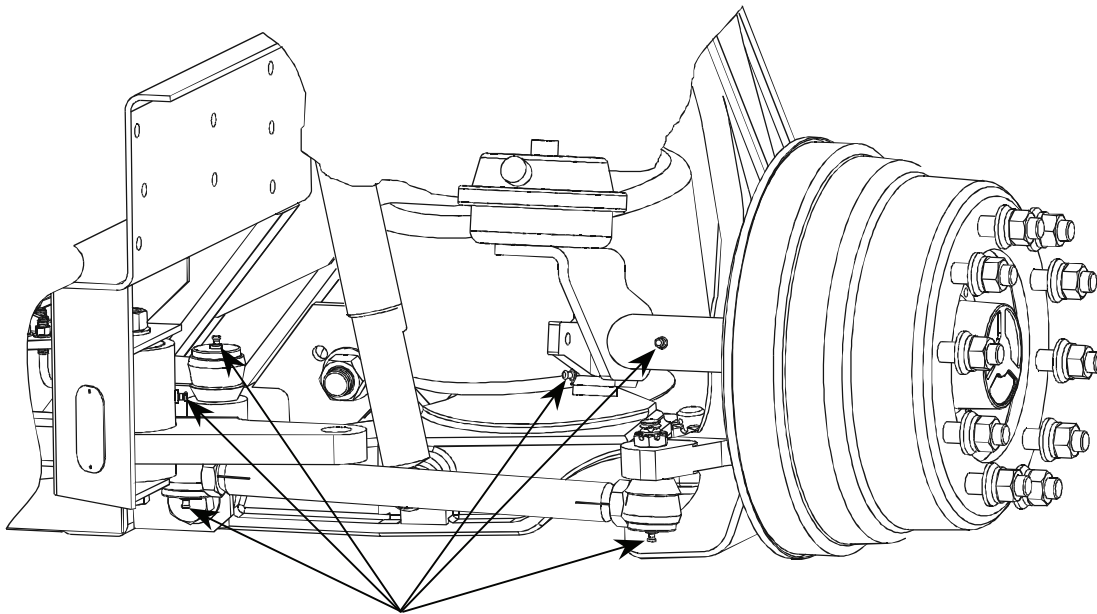

Figure 17 – Location of lubrication fittings. Note: Left side only shown.
2. Apply lubricant to grease fitting until new lubricant discharges from the dust boot (See Figure 17).
2. Apply lubricant to the bell crank and idler steering arms until new lubricant discharges from the bearing seal or from the pressure relief port of the grease fitting. (See Figures 17).
2. Apply lubricant to the S-cam tube until new lubricant discharges from the S-camshaft bushing seal next to the automatic slack adjuster. (See Figure 17).
3. Apply lubricant to the automatic slack adjuster until new lubricant discharges from the cone clutch adjacent the adjusting hex nut. (See Figure 17).